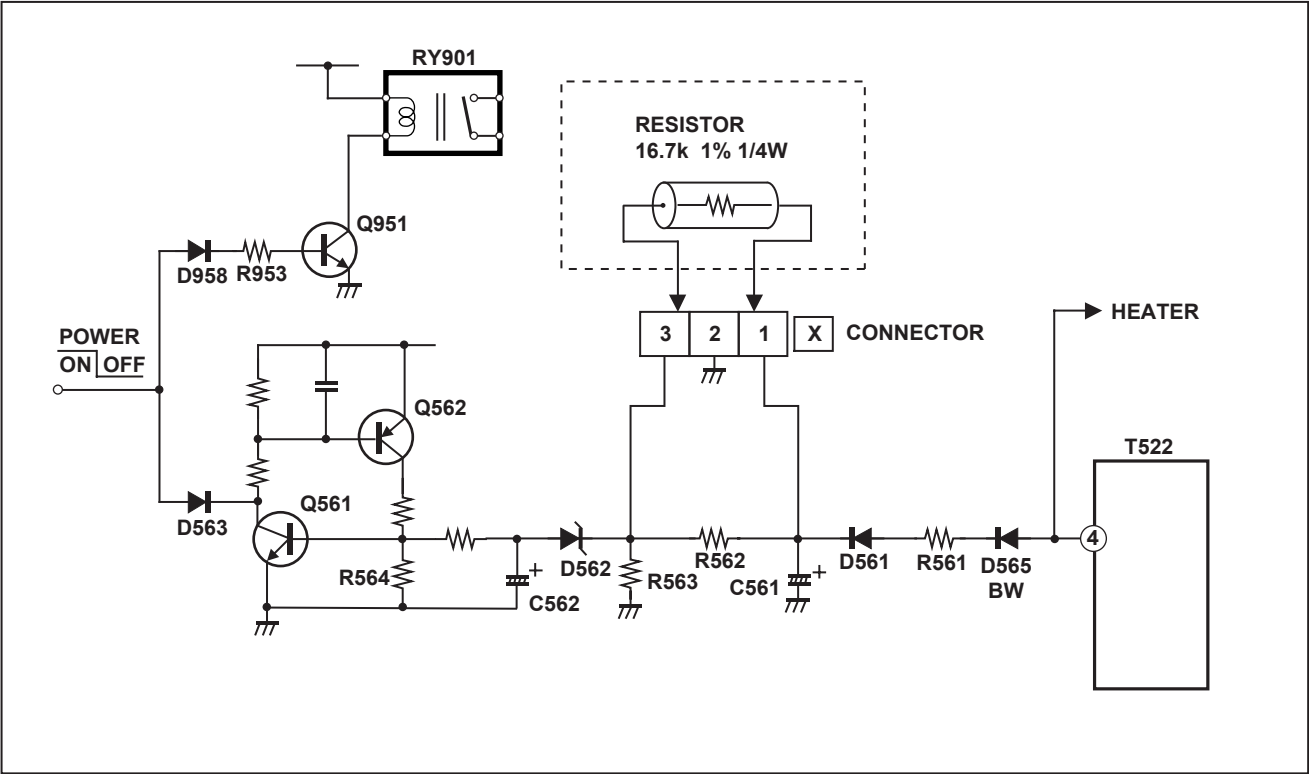

Fig.1
- (1) Turn the power switch to on.
- (2) As shown in Fig. 1, set the resistor between [X] connector [1] and [3].
- (3) Make sure that the screen picture disappears.
- (4) Temporarily unplug the power plug.
- (5) Remove the resistor replaced [X] connector [1] and [3].
- (6) Again plug the power plug, make sure that the normal picture is displayed on the screen.